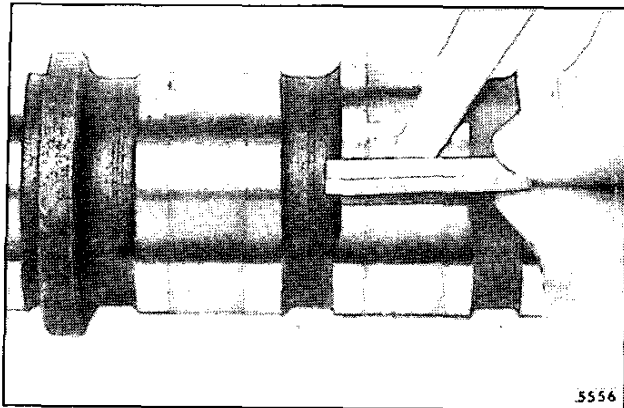

Fig. 4 – Checking Cam Lobe Wear
1. With a tapered leaf set of feeler gages (.0015"-.0100") and a piece of square hard material $1/8$ " x $3/8$ " x 1" measure the flat on the injector rise side of the cam lobes (Fig. 4).